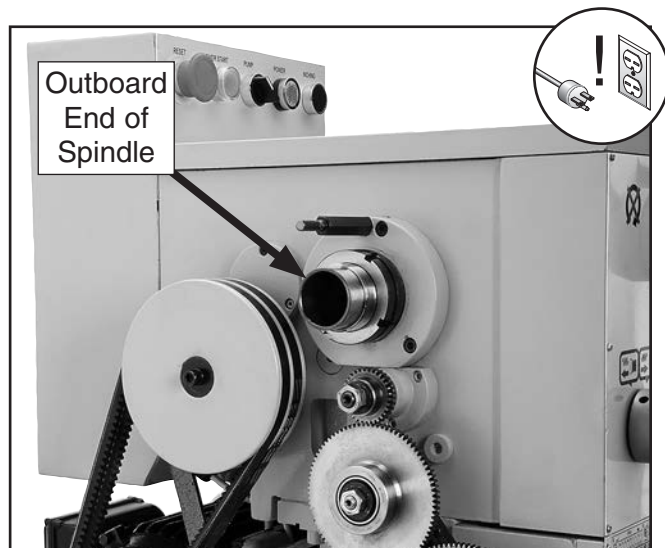

Figure 134. End gear cover removed to access outboard end of spindle.
3. Remove chuck (refer to **Chuck Removal** on **Page 31**), then use feed direction lever to shift spindle to neutral (see **Figure 77** on **Page 52**) and remove end gear cover to access outboard end of spindle (see **Figure 134**).